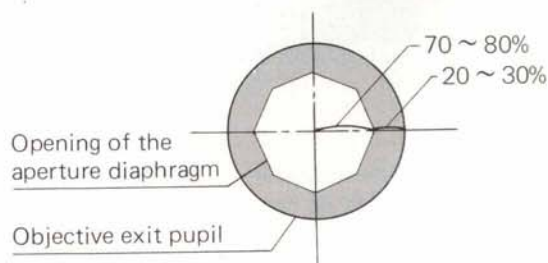

Fig. 16
- After completing focus adjustment, remove one of the eyepieces from the observation tube and look into the empty eyepiece tube. As you stop down the aperture iris diaphragm, the image of the iris diaphragm can be seen in the objective pupil. Adjust the opening of the diaphragm to match the N.A. of the objective in use. If the specimen is low in contrast, it is recommended to stop down to 70% ~80% of the objective N.A. (Fig. 16)